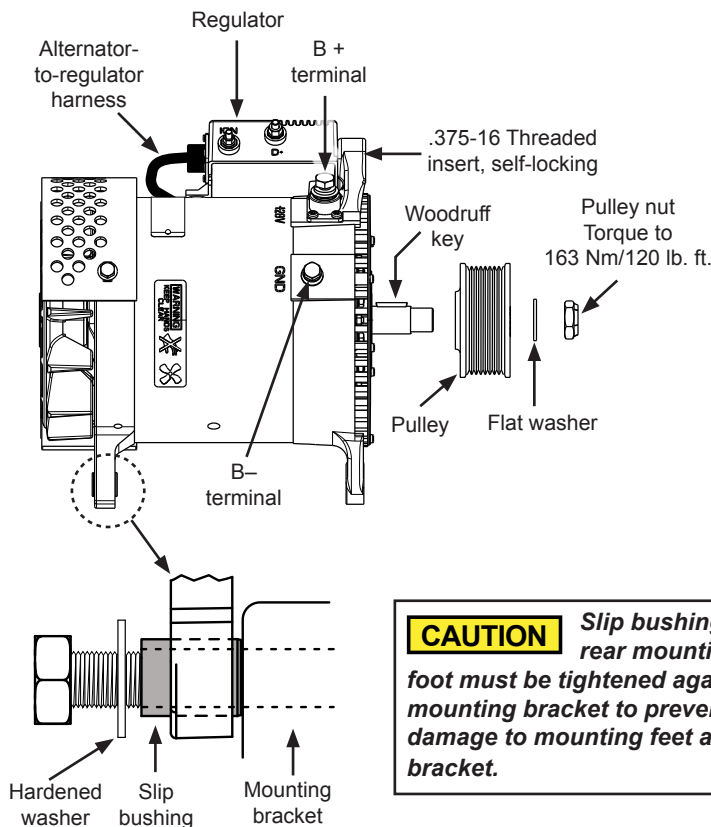

Figure 1: C629 Alternator Connections
2. Install pulley with furnished flat washer and locknut. Torque pulley nut to 163 Nm/120 lb. ft. See Figure 1.
7. Connect alternator-to-regulator harness to regulator as shown in Figure 1.